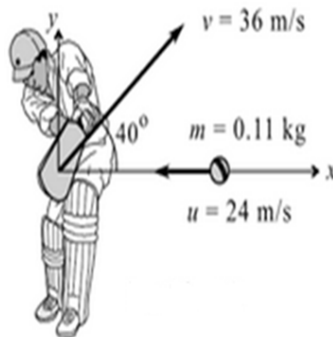

Figure 5
- (b) A ball of mass 110 gm is moving towards a batsman with a velocity of 24 m/s as shown in Figure 5. The batsman hits the ball by the bat, the ball attains a velocity of 36 m/s. If ball and bat are in contact for a period of 0.015 sec, determine the average impulsive force exerted on the ball during the impact. [7M]